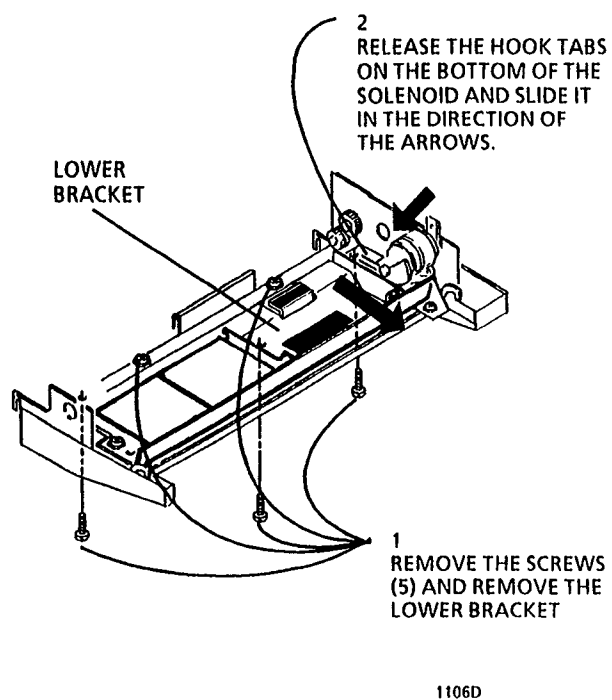

Figure 4. Removing the Manual Feed Solenoid
5. (Figure 4): Remove the Manual Feed Solenoid.